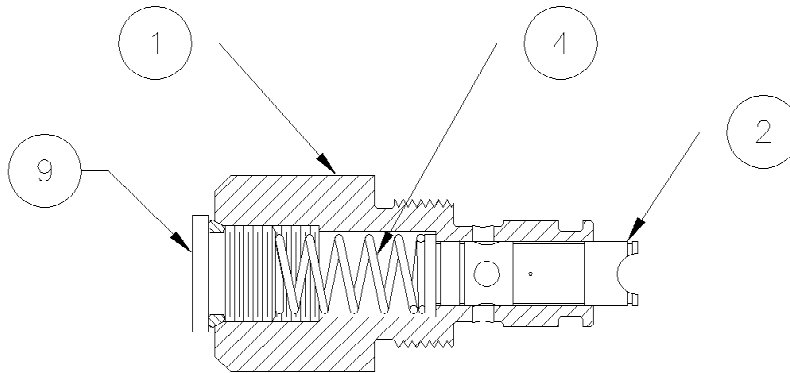

figure S-2
- Place the plunger (2) (fig. S-2) into the plunger housing (1). Place the spring (4) on top of the plunger (2). Coat the o-ring on the o-ring plug (9) with STP Oil Treatment. Screw the o-ring plug (9) into the plunger housing (1) on top of the spring (4) and tighten to 30 in-lb. torque.